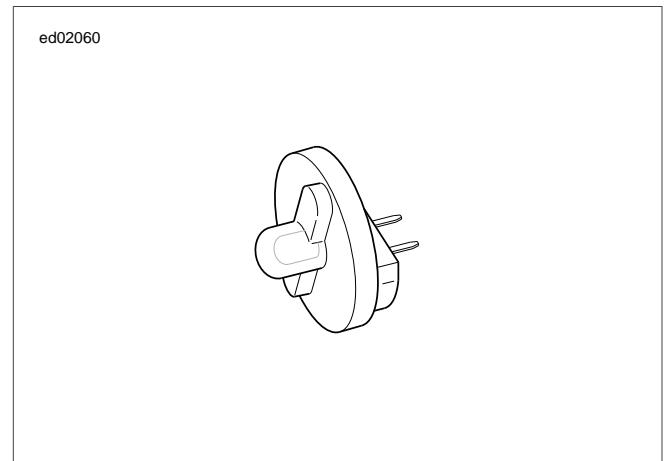

Figure 4-42. Fuel Injector Test Lamp (Part No. HD-34730-2C)
2. Use FUEL INJECTOR TEST LAMP (Part No. HD-34730-2C). See Figure 4-42.